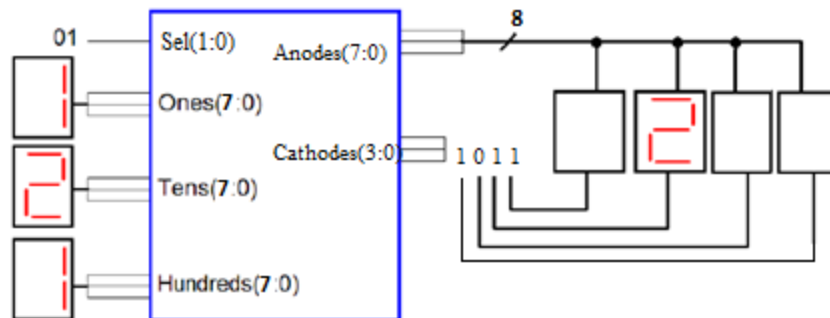

Figure 4. Block diagram of the switching circuit for the 7-segment displays.
8. Build the switching circuit (see Figure 4). It should have as inputs the 7-segment display anode signals for the ones, tens, and hundreds digits, as well as a two-bit 'Sel' signal. It should also have two outputs: one 8-bit signal for the anodes and one 4-bit signal for the cathodes. As the 'Sel' changes, the switch should alternate which signal is passed to the anodes. At the same time, it should turn on the correct cathode and turn off the rest. Write your switching circuit in a way that the rightmost 7-segment always shows zero. Do a simulation when you are done.